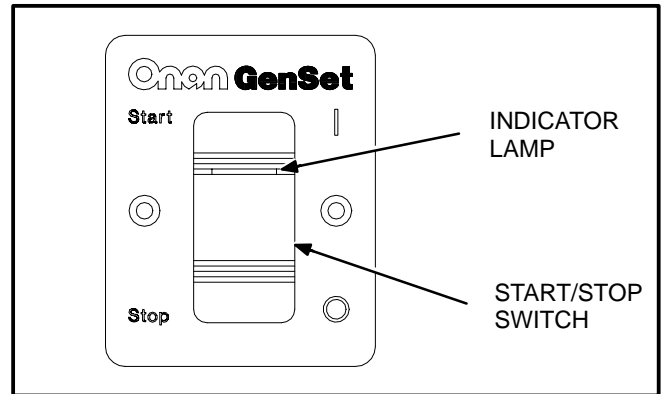

FIGURE 8-6. REMOTE PANEL WITH START/STOP SWITCH ONLY
- Remote panel with start/stop switch and indicator lamp only (see Figure 8-6).